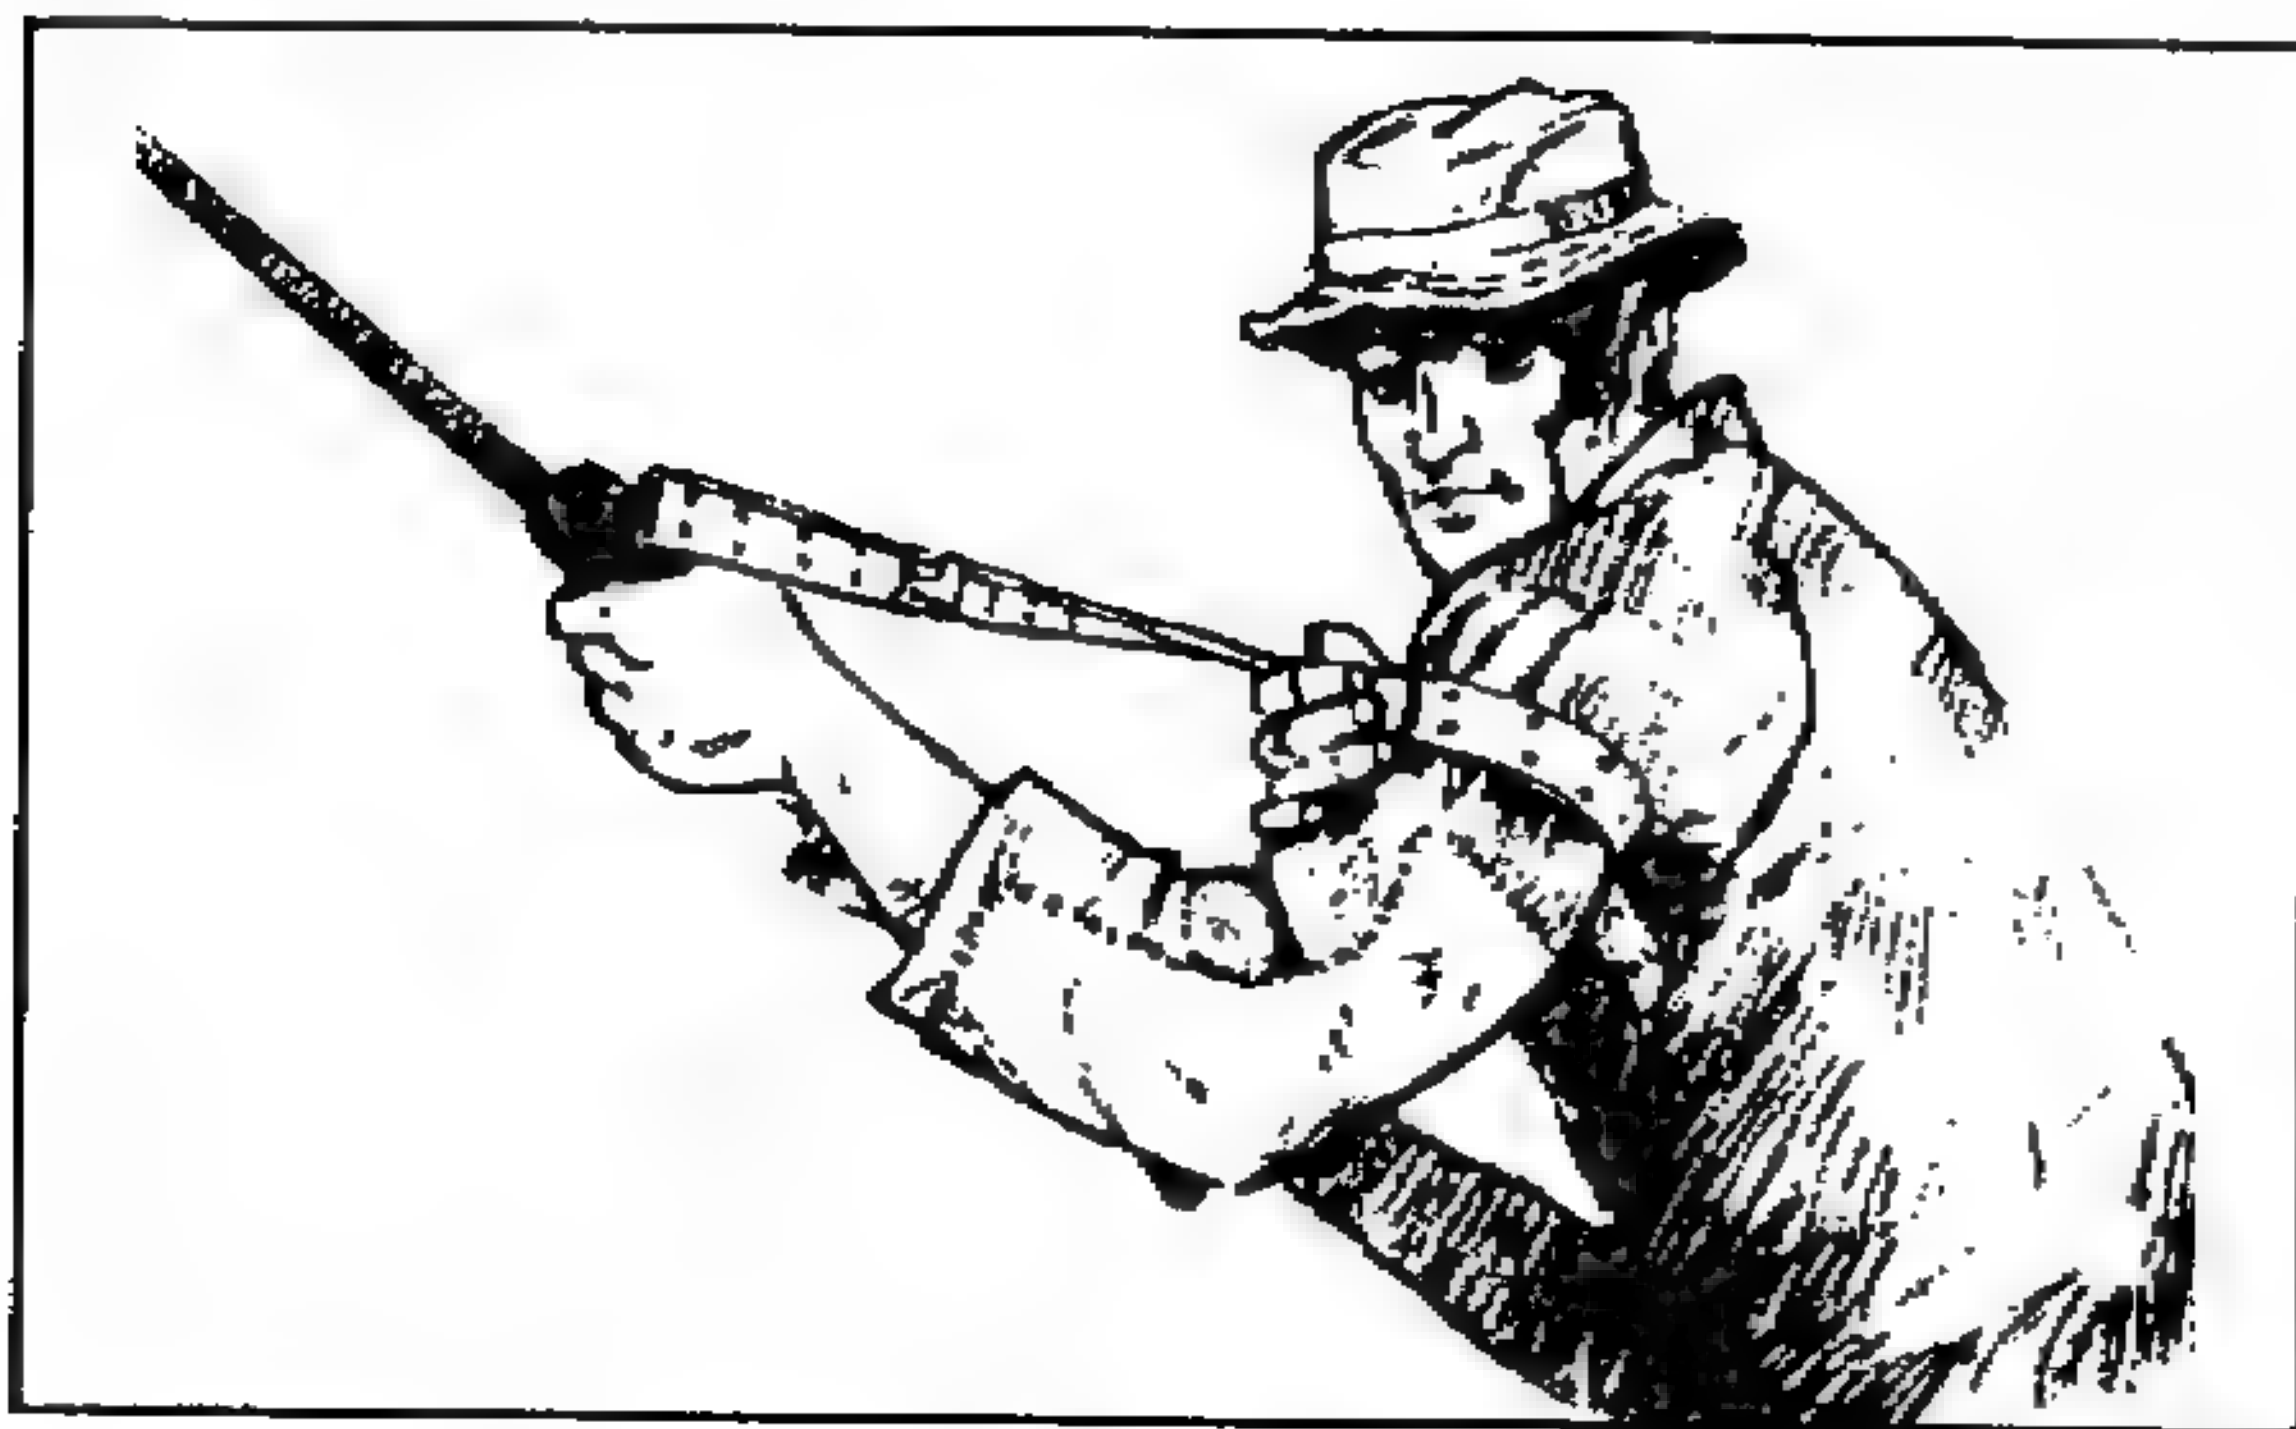

Figure 2-11. Placing the sling around the nonfiring arm.
(5) The sniper slides the loop in the large section of the sling up the nonfiring arm until it is just below the armpit (Figure 2-11). He then slides both leather keepers down the sling until they bind the loop snugly around the nonfiring arm.